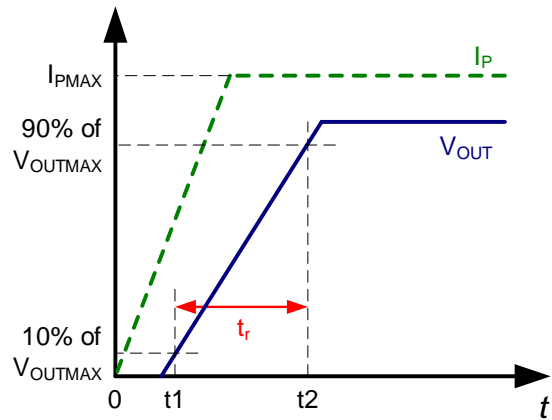

Figure 7: Rise Time ( $t_R$ )
2.  $t_2$ : The sensor's  $V_{OUT}$  reaches 90% of its full-scale value (see Figure 7).